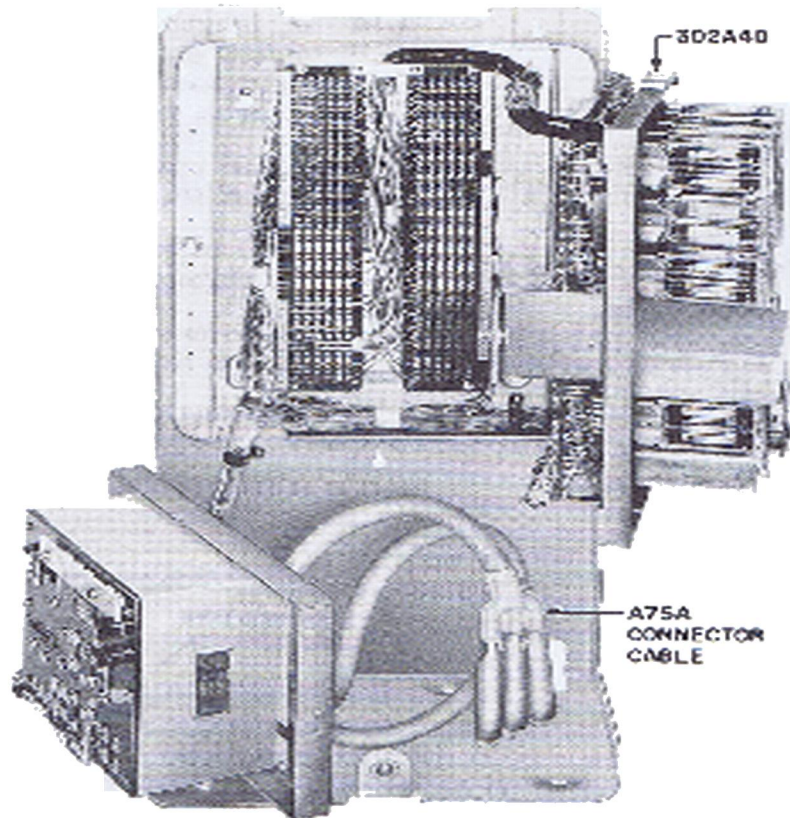

Fig. 3 – 302A4D KSU, Cover Removed
2.14 Fig. 3 shows a 302A4D key service unit in an open position. This shows the length of A75A cable.